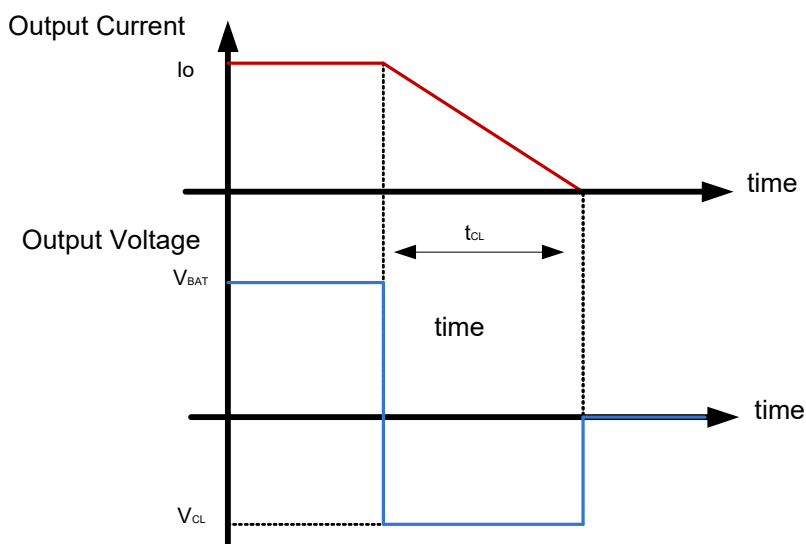

Figure 21. Simplified negative output clamp waveform
In case of an inductive load (L), the energy is dissipated after the turn-off inside the N-channel MOSFET. When $t_{\text{CL}} (= I_o \times L / V_{\text{CL}}) > 1.0\text{ ms}$, the turn-off waveform can be simplified with a rectangle as shown in Figure 21.